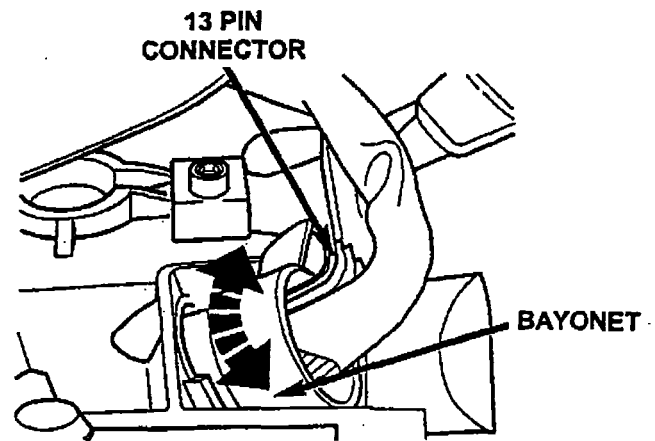

Figure 5
13. Disconnect the 13-pin wiring connector to the transmission by turning the bayonet lock counterclockwise (Figure 5).